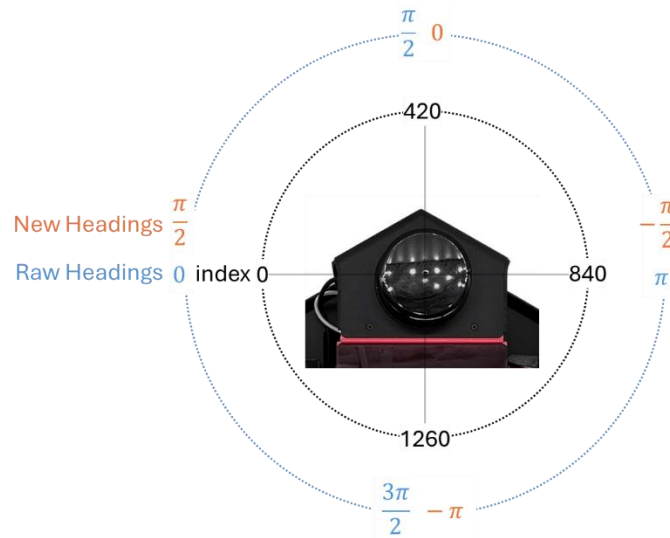

Figure 3. LiDAR measurement correction
- Notice that the raw headings signal is connected to a **Gain** block with a value of -1 and a **Bias** block with a value of $\pi/2$. This is to correct the headings such that the angle value of 0 corresponds to the front of the QBot, as shown in Figure 3. In addition, the angles now are increasing counterclockwise, consistent with the positive convention of our reference frame.